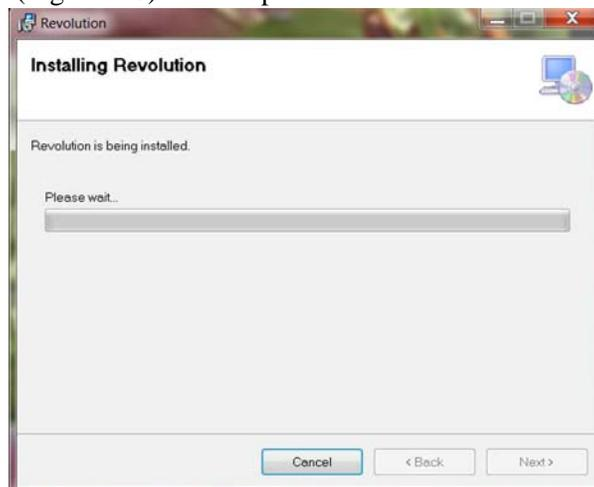

Figure 4-8. *Installing Revolution Screen*
7. The *Installing Revolution* (Figure 4-8) comes up. Wait for the download to complete.